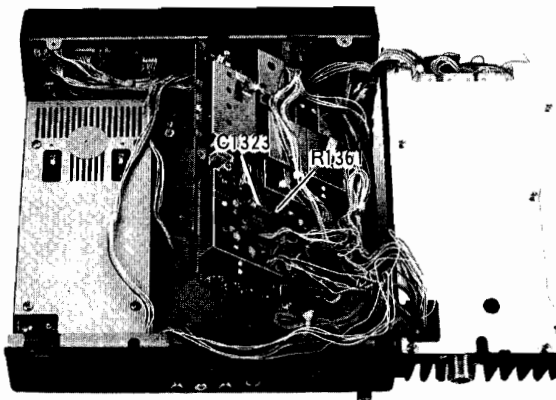

Figure 9: Local Unit Components to Remove
- ❑ Remove the seven screws shown in Figure 7 (note that one is next to the DVS-2 jack on the rear panel), and also remove the upper one of the two screws on either side of the front panel (Figure 8, next page), and loosen the lower one (on each side), allowing the front panel to be folded forward so that the Local Unit can be lifted as shown in Figure 9 (next page).
- ❑ Referring to Figure 9, locate capacitor C1323 and resistor R1361 on the board just behind the oscillator housing. Cut the leads of these parts and remove them.